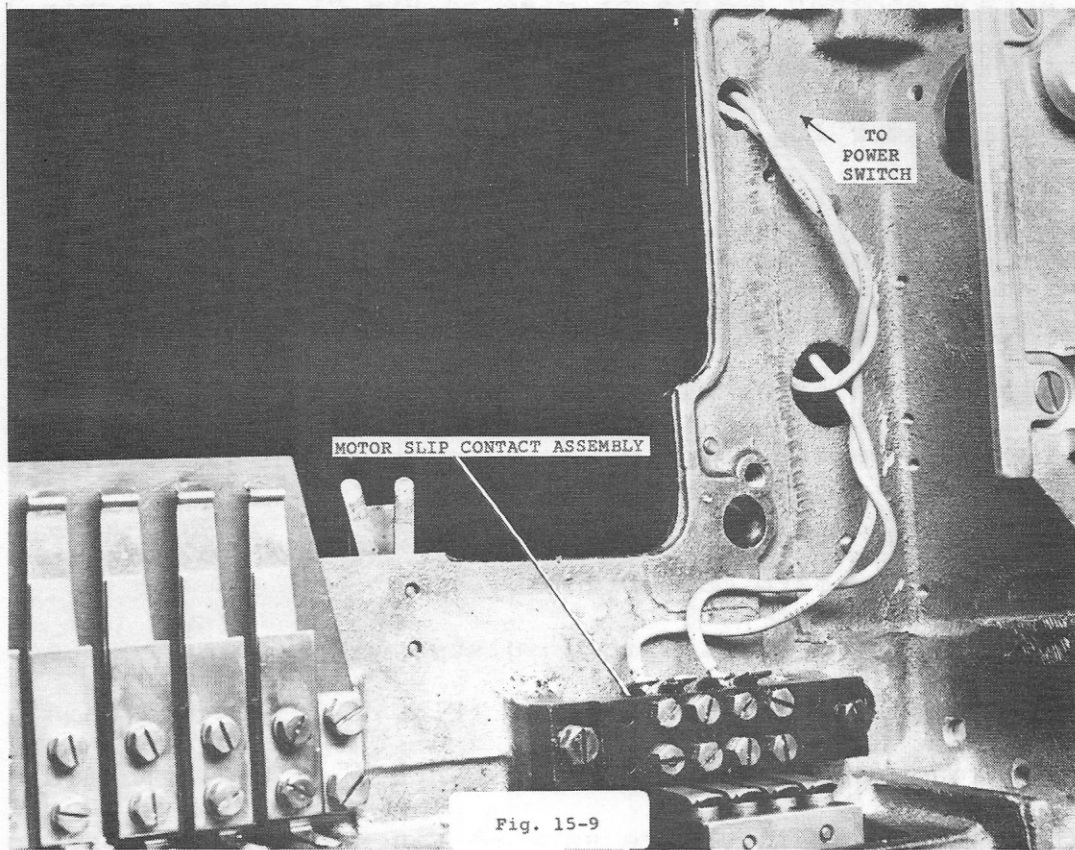

Fig. 15-9
b) Attach another length of wire to Pin 21 on the terminal strip; run this wire through the base to the power switch. Mount a solder lug on the end of this wire, and screw it on one side of the switch. Attach a new piece of wire (with solder lug mounted) to the other side of the power switch; run this wire out and attach it to another slip contact on the motor slip-contact assembly. See Fig. 15-9. This completes the motor power connections.